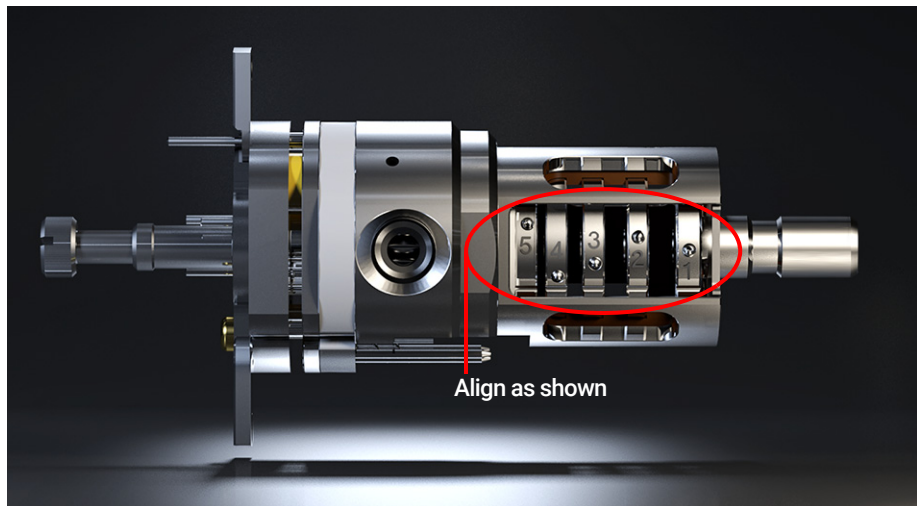

Figure 39. Assembled EI HES
- 1 Assemble the five lenses inside the lens insulator. (See Figure 39 on page 131.) The lens number is engraved into the outer circumference of each lens.